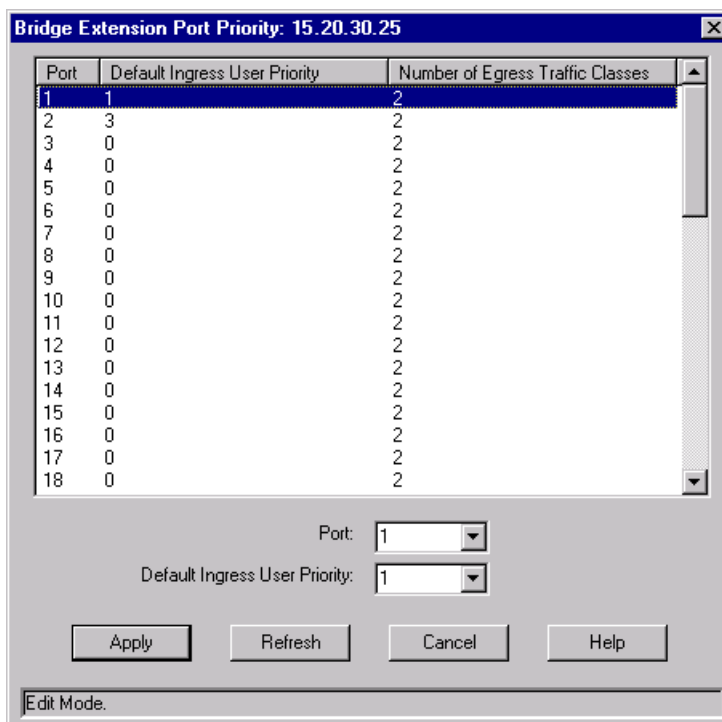

Figure 2-33. The Bridge Extension Port Priority Window
2. In the Bridge Extension Configuration window, click on the **Priority** button and select **Priority...** from the menu. The Bridge Extension Port Priority window, Figure 2-33, appears: